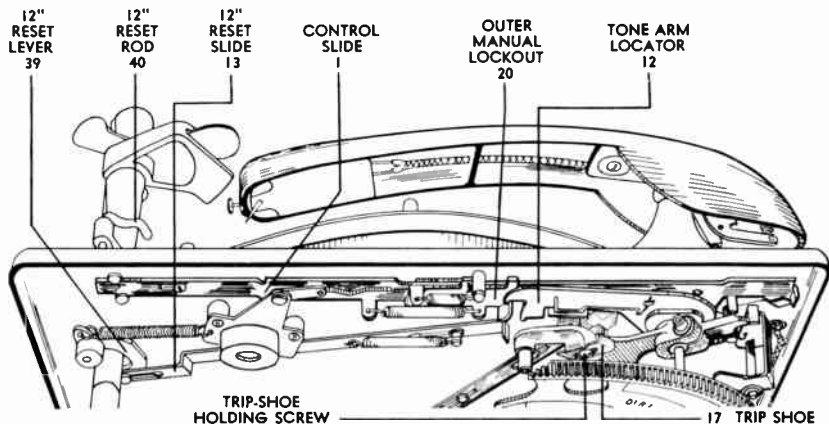
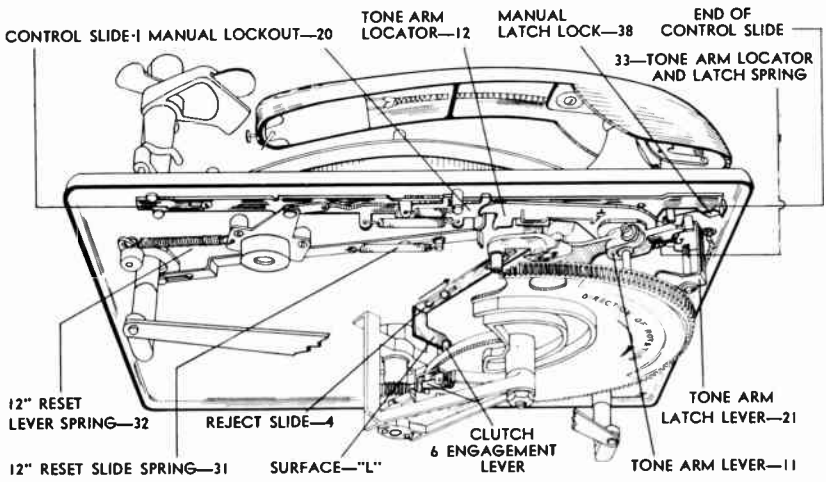
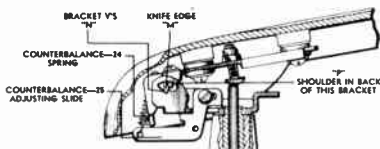

Figure SE3.
Figure SE5.
Figure SE6.
5. **Rejects Continuously:** (a) failure of clutch engagement lever 6 to latch. With the mechanism stopped in the playing position (pinion in open tooth portion of drive gear), latch the clutch engagement lever with the aid of a pencil and unlatch by moving the control knob to "REJECT". Repeat this several times. If it fails to latch: (1) examine the trip lever 5 for binds or insufficient tension in the trip lever spring 30. Replacement of a weak spring will give a positive latch-up. Do not increase tension to a point where it will cause a trip failure, (2) control knob binding in "REJECT" position due to sticking control slide 1 or its associated levers and springs. Examine for loose or missing springs, (3) manual reject slide incorrectly positioned so that it fails to clear the trip lever while in "AUTOMATIC" operation; (b) failure or stop lever to properly detent drive gear. Examine for proper spring tension.
6. Incorrect Tone Arm Indexing: (a) examine the following two springs for being loose, of improper tension or missing: 12" reset slide spring 31, 12" reset lever spring 32; (b) incorrect locator spring tension 33; (1) insufficient spring tension will produce erratic or incorrect tone arm landing since the locator will not seat in the fixed 10" or 12" indexing position. (See figure SE5) It will also result in a jerky action of the tone arm, since the tone arm lever will not accurately follow the cam surface of the large gear, (2) excessive spring tension will result in a stiff, heavily loaded "feel" as the tone arm is moved into the rest position. It may also produce a stiff action of the control slide (when the manual lockout is engaged) and cause increased wear on moving parts; (c) tone arm retard lever 14 binds. Examine its pivot point for foreign matter between gear casting and shoulder screw. Also, examine retard lever spring 26 for proper action. (See figure SE3); (d) excessive clearance at tone arm hinge bracket. (See figure SE6)
7. Selector Arms And Blades: (a) blade adjustment; (1) if an adjustment is necessary, place a 10" record of average thickness (.074") on the selector arms and manually rotate the turntable clockwise until the selector blade contacts the record. The blade must rise after it first contacts the edge of the record. This rising cam action results whenever pressure is applied to the leading edge of the selector blade. The blade may be adjusted by bending, very slightly, to correct position (use pliers with tape lined jaws). The height to which blades are set must be less than the minimum record thickness, otherwise the blade will attempt to change two records at a time, due to the cam action which always operates in an up direction. When necessary, make the same adjustment on the 12" selector blades, using a 12" record (approximately .090" thick), (2) the leading edge of blade must be smoothly rounded and well polished, (3) blade must be very free in its mounting so that it will return to normal position by its own weight; (b) selector arms must be parallel with each other, and must be synchronized so that a record will drop evenly onto the turntable, (1) set drive gear in neutral position. Set selector arms No. 1 for 10" records, and align the sleeve with the proper notch in the arm, tighten the cap screw on the drive crank, to the sleeve, (2) with mechanism set as described above, segment No. 1, 14, and post gear No. 1, 13, are meshed so that stop on segment No. 1 just clears the seg-